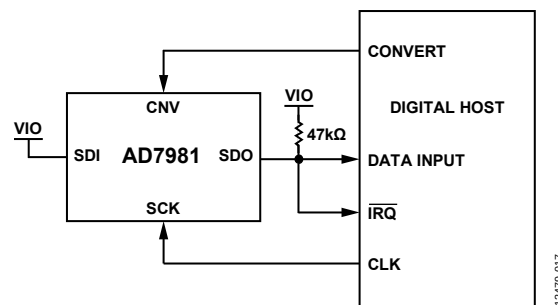
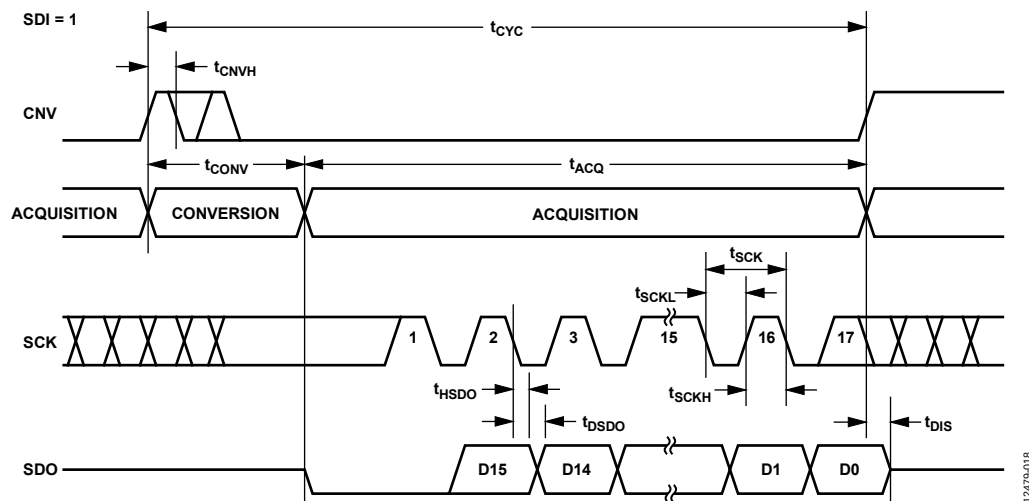
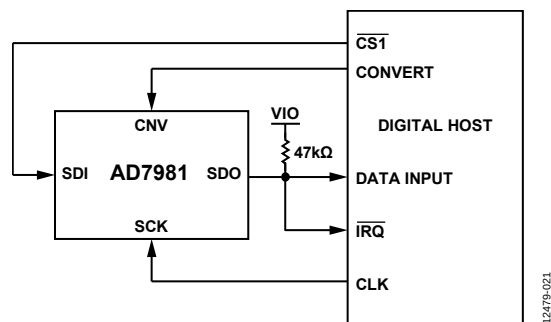
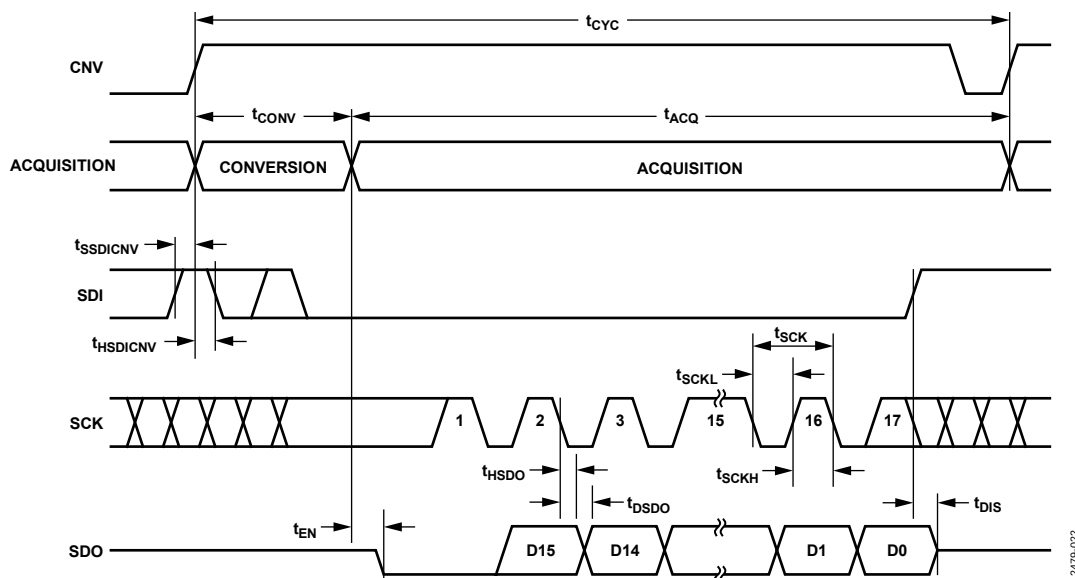

Figure 44. 3-Wire $\overline{\text{CS}}$ Mode with Busy Indicator Connection Diagram (SDI High)
Figure 45. 3-Wire $\overline{\text{CS}}$ Mode with Busy Indicator Serial Interface Timing (SDI High)
Figure 48. 4-Wire $\overline{\text{CS}}$ Mode with Busy Indicator Connection Diagram
Figure 49. 4-Wire $\overline{\text{CS}}$ Mode with Busy Indicator Serial Interface Timing
- In $\overline{CS}$ mode if CNV or SDI is low when the ADC conversion ends (see Figure 45 and Figure 49, respectively).
The 3-wire $\overline{\text{CS}}$ mode with a busy indicator is typically used when a single AD7981 is connected to an SPI-compatible digital host having an interrupt input. The connection diagram is shown in Figure 44, and the corresponding timing is given in Figure 45.
The connection diagram is shown in Figure 48, and the corresponding timing is given in Figure 49.